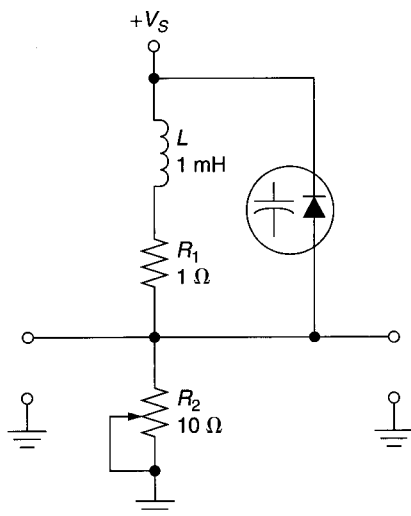

FIGURE 5.25
- The varactor in Figure 5.25 has the following values:  $C_i = 48$  pF at  $V_R = 3$  Vdc, and  $C_R = 4.8$  for  $V_R = 3$  to  $12$  Vdc. Determine the resonant frequency for the circuit at  $V_R = 3$  Vdc and  $V_R = 12$  Vdc.